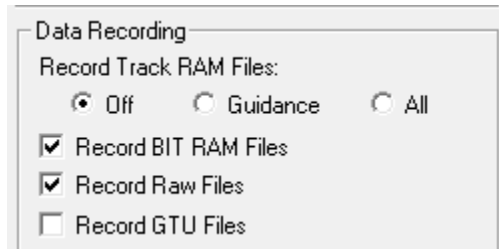

Figure 6-1. Record BIT RAM Files
4. In SYSTEM SETUP>SETTINGS> DATA RECORDING, ensure “Record BIT RAM files” is checked (See Figure 6-1).